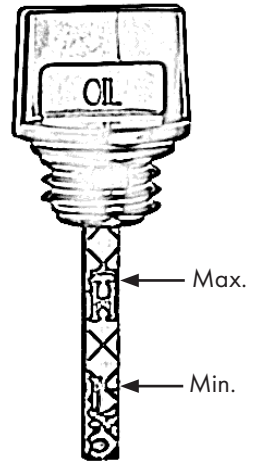

Figure 8
- Read the oil level, see also Fig. 8.
There must be an oil film between the upper and lower markings. If there is no oil film, the oil level is too low, Fig. 8. Top up with more oil. H-High stands for maximum. L-Low stands for minimum.